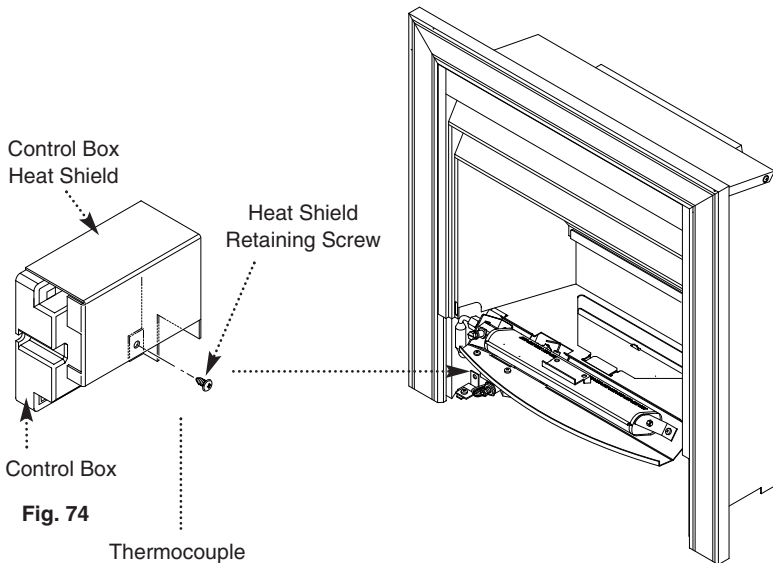

Fig. 74
2. Remove the control box heat shield retaining screw and place the shield to one side (Fig. 74).